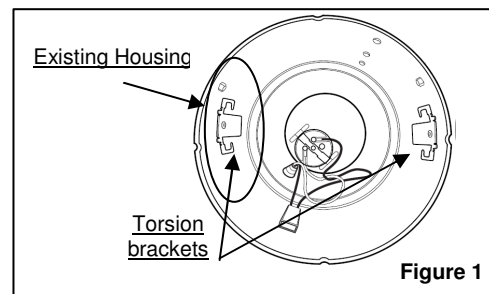

Figure 1
- A. Housing with torsion brackets (see Figure 1); use torsion springs to install LED module.